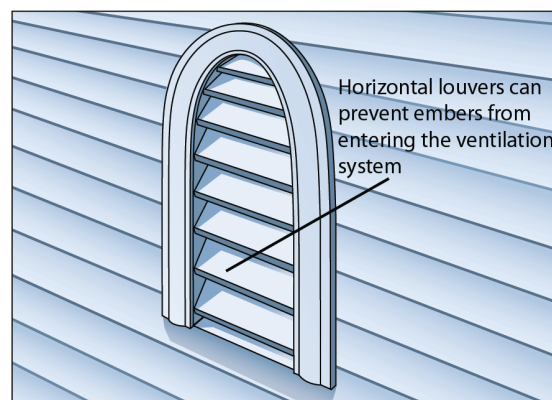

Figure 1. A louvered vent opening can be used for gable-end venting or for connection to ductwork.
- **Gable-end vent** — a vent located in the gable-end wall, just below the roof ridge. Gable-end vents allow air to flow into and out of attics. Gable-end vents normally have louver blades to avoid the entrance of wind-driven rain and snow (see Figure 1). This type of vent is commonly metal and normally has an insect screen.
- **Wall louvers** — a vent opening on an exterior wall (see Figure 1). Wall louvers are connected to the HVAC ductwork where air enters or is exhausted from the building. Louvers are commonly metal. The louver blades are normally in a fixed position (i.e., cannot be rotated), but some have moveable blades that can be rotated to close the vent opening.